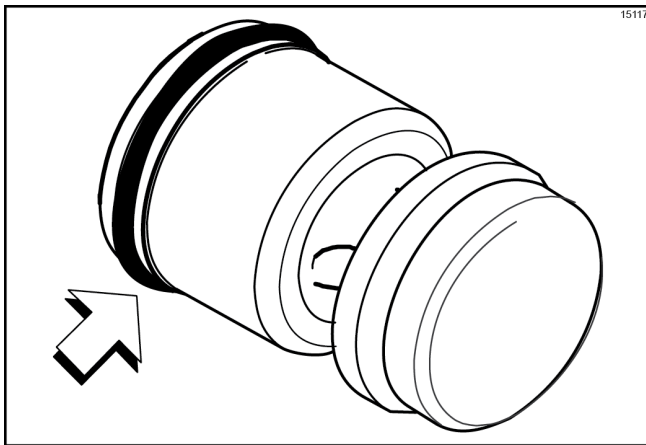

Figure-144
2. Assemble the piston. Slide the red O-ring into the groove of the piston. **Do not** lubricate the O-ring. (See Figure-144.)